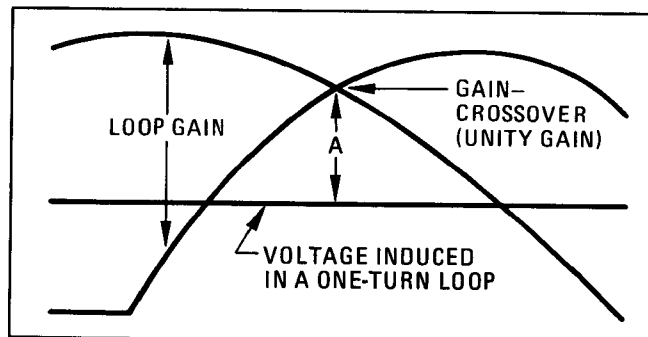

Figure 5-9. Spectrum Analyzer Display of Phase Locked-Loop Gain
6. Press the single sweep pushbutton. Check that the gain-crossover frequency is 20 ± 2 kHz. If the gain-crossover frequency is not correct, A3A9A4R20 must be changed to set the correct frequency. Refer to Figure 5-9.